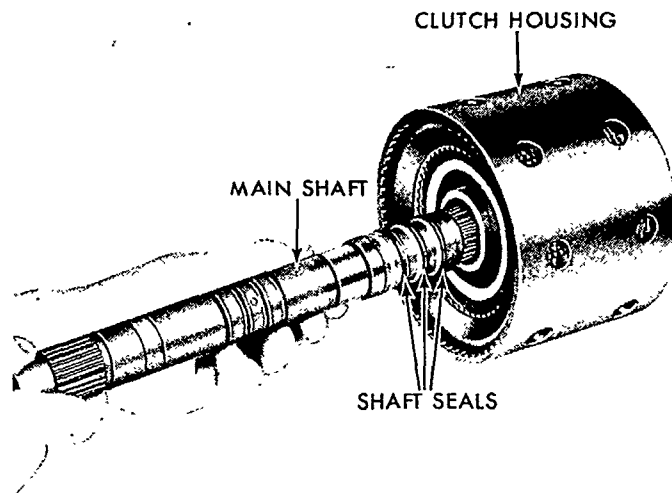

Figure 81
20. Install the three rearmost shaft seals on the mainshaft. Use petroleum jelly to center the seals. Install the shaft in the clutch 2 and 3 housing as shown in Figure 81, and install the clutch housing retaining snap ring.